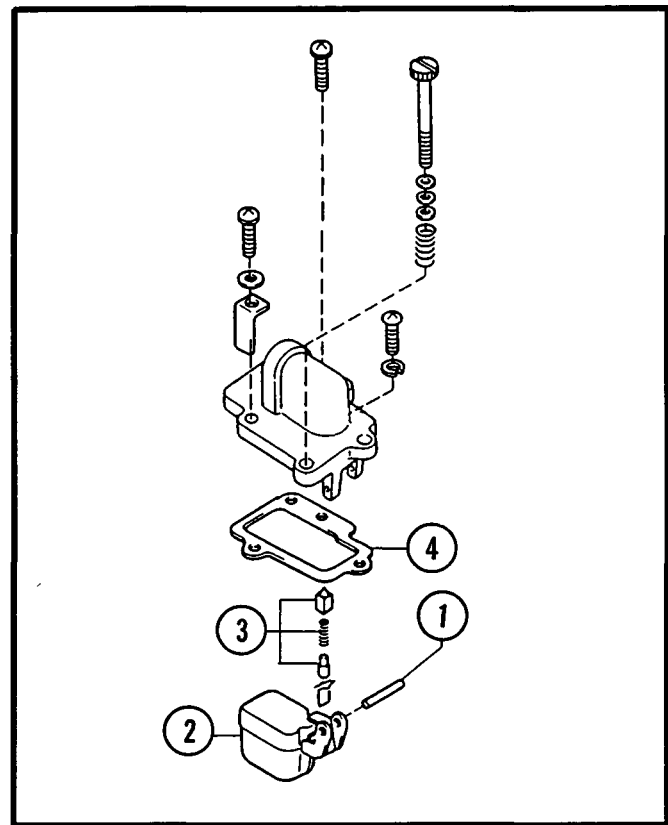

Figure 11.
1. Disassemble float bowl cover mounting screws. See Figure 11.
2. Disassemble float lever pin, float, needle valve and gasket. See Figure 11.